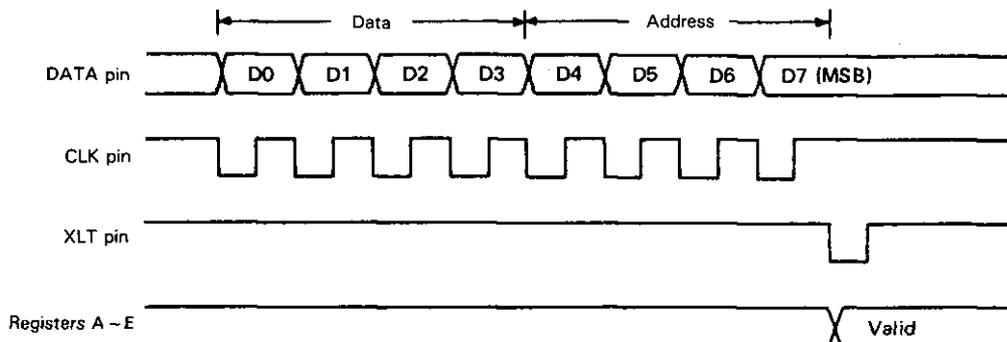

Fig. 7-2 Timing chart for data input
Each register may be set by input of 4-bit address, and 4-bit data from LSB in the timing that is shown in Fig. 7-2 at three pins, XLT, CLK and DATA. The address and data
- (3)  $\overline{\text{PW} \geq 64}$  : Address (see note) is "E"; This signal is of LOW level when the pulse width after bottom hold is over 63, and is of HIGH level otherwise. It is used for detection of a drop in the speed of the spindle motor after braking and so on.
**Note:** Address setting is determined by the data corresponding to D4 to D7, which are input from the DATA pins shown in Fig. 7-2.